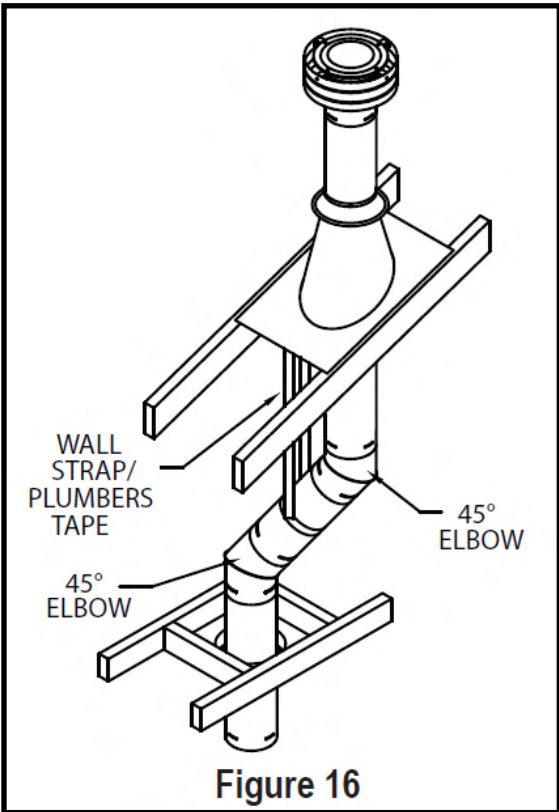
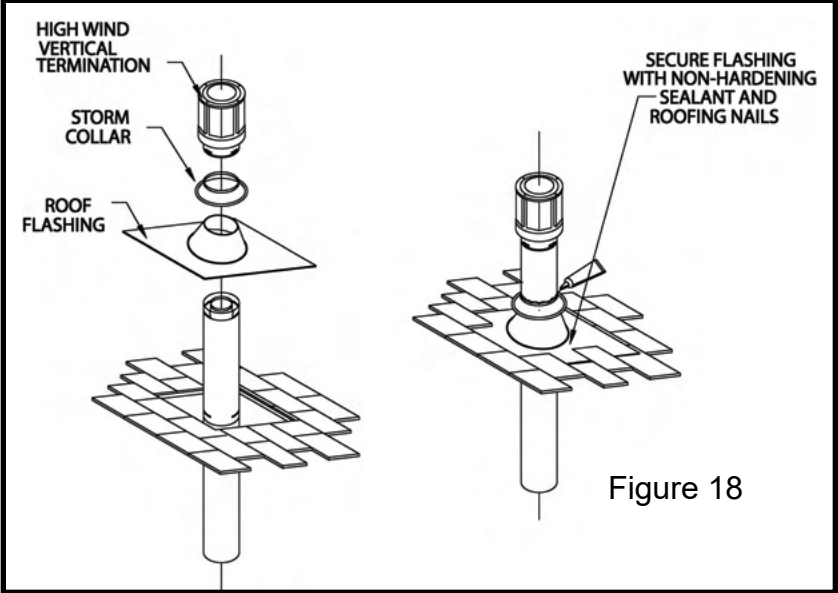

Figure 16
Figure 18
- (1) If exact lengths or distances must be met between Elbow offsets or elsewhere, use the Pipe Extensions to adjust onto standard Pipe Sections
- (2) If an offset is necessary in the attic to avoid obstructions, it is important to support the vent pipe in order to avoid excessive stress on the Elbows. Wall Straps or plumbers tape may be used for this purpose (Fig. 16).
- (3) Wherever possible, use 45° Elbows instead of 90° Elbows. The 45° Elbow offers less restriction to the flow of flue gases and intake air.
Step 7. Slip the Roof Flashing over the Pipe Section(s) protruding through the roof. Use a non-hardening sealant between the Roof Flashing and the roofing to prevent water leakage. Secure the base of the Roof Flashing to the roof with roofing nails. Ensure the roofing material overlaps the top edge of the Roof Flashing (Fig. 18). Verify that you have at least the minimum clearance to combustibles at the roof line and in the attic.
Step 9. Slip the Storm Collar over the Pipe Section, and push it down to the top of the Roof Flashing (Fig. 18). Use non-hardening sealant between the Storm Collar and the Pipe Section.
Step 2. Using the plumb bob, mark Figure 18 the center line of the venting system on the ceiling and drill a small hole through the ceiling and roof at this point. From the roof, locate the drill hole and mark the outline of the Cathedral Ceiling Support Box.